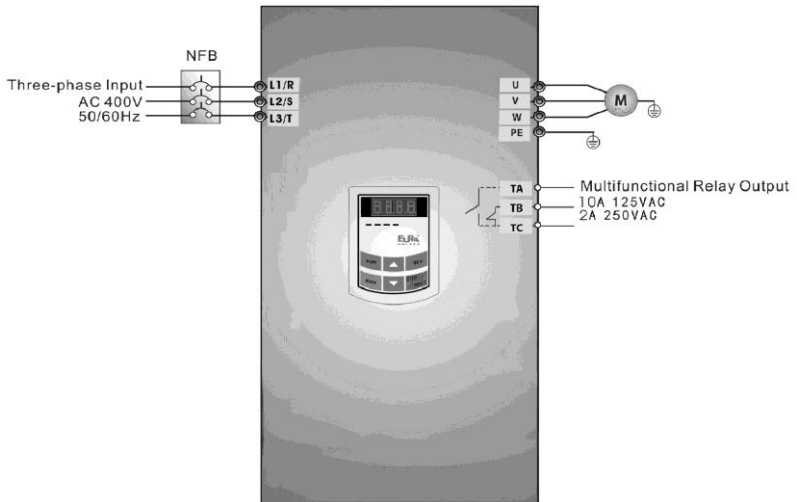

Figure 5-7 Wiring Diagram 1
- (1) Connect the wires in accordance with Figure 5-7. After having checked the wiring successfully, switch on the air switch, and power on the inverter.
- (2) Press the “Fun” key, to enter the programming menu.
- (3) Measure the parameters of the motor
- (1) Connect the wires in accordance with Figure 5-7. After having checked the wiring successfully, switch on the air switch, and power on the inverter;
- (3) Study the parameters of the motor: the operation process is the same as that of example 1.
(4) Set functional parameters of the inverter:
(2) Press the “Fun” key, to enter the programming menu.
(3) Study the parameters of the motor: the operation process is the same as that of example 1.